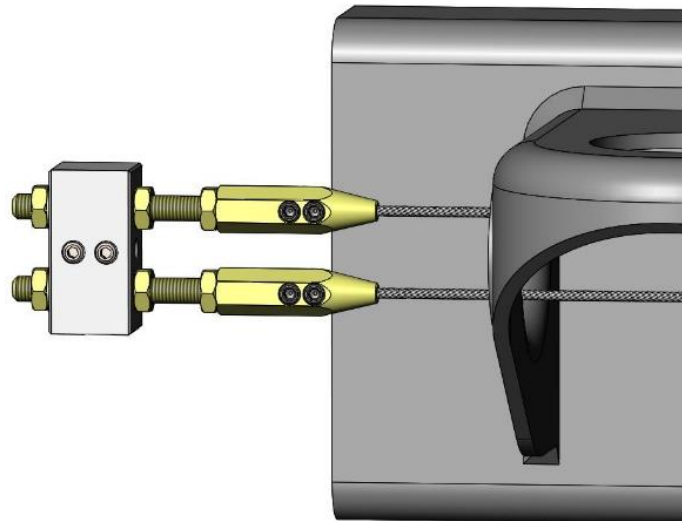

Figure 5 – Installing Single Wire Unions into to Aluminum Attachment Block
9. Place the single wire union assembly over the end of the inner wire and tighten the set screws with a 1/8" Allen wrench. Insert both of the Single Wire Unions into the provided Aluminum Attachment Block. Using the provided jam nuts and washers, tighten the threaded stud into the union along with the securing the Aluminum Attachment Block. Refer to Figure 5 below for reference on using the provided connectors.